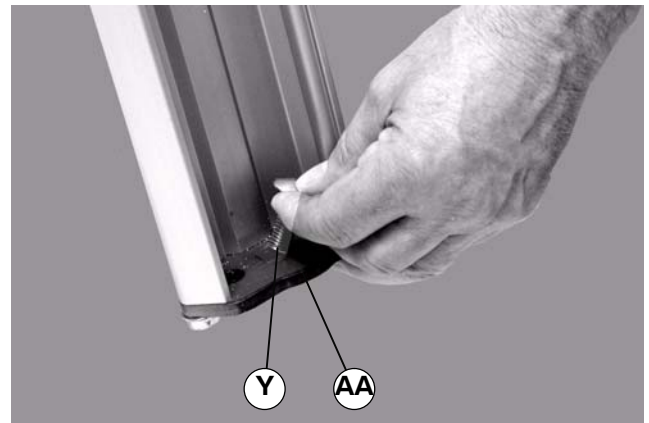
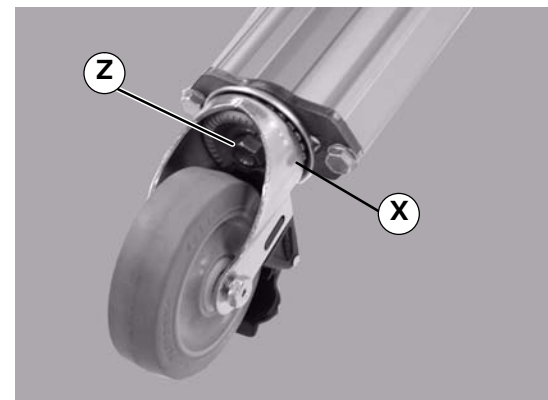

Figure 19
Figure 20
1. Install carriage bolt (Y of Figure 19) into stand boot base plate (AA).
2. Install caster (X of Figure 20) over carriage bolt (Y of Figure 19).
3. Place nut (Z of Figure 20) on carriage bolt. Tighten nut to 177 in-lb (20 N-m).